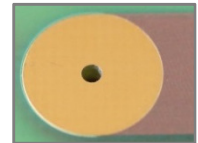

Figure 1
- The solder result and the resulting holding forces depend on optimal pad geometry. On the basis of the IPC TM 650 test method, the pad size was specially matched to the component in terms of the adhesive strength of copper layers on FR4, such that no further layout design measures are generally necessary (Fig. 1).